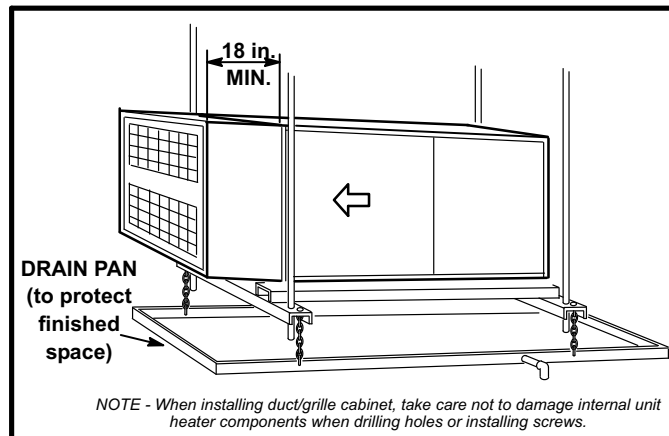

FIGURE 16
A field-fabricated and installed discharge air duct and grille cabinet is suitable for use with the G71MPP heater. See figure 16. Keep the following items in mind when constructing the cabinet.
- 1 - Outer dimensions of cabinet should match those of the unit heater, so the duct/grille cabinet installs flush with the unit heater cabinet. See figure 16.
- 4 - Use #10-16 x 1/2 inch sheet metal screws to secure duct/grille cabinet to unit, taking care not to damage internal components of unit heater when drilling holes or installing screws. See figure 16.